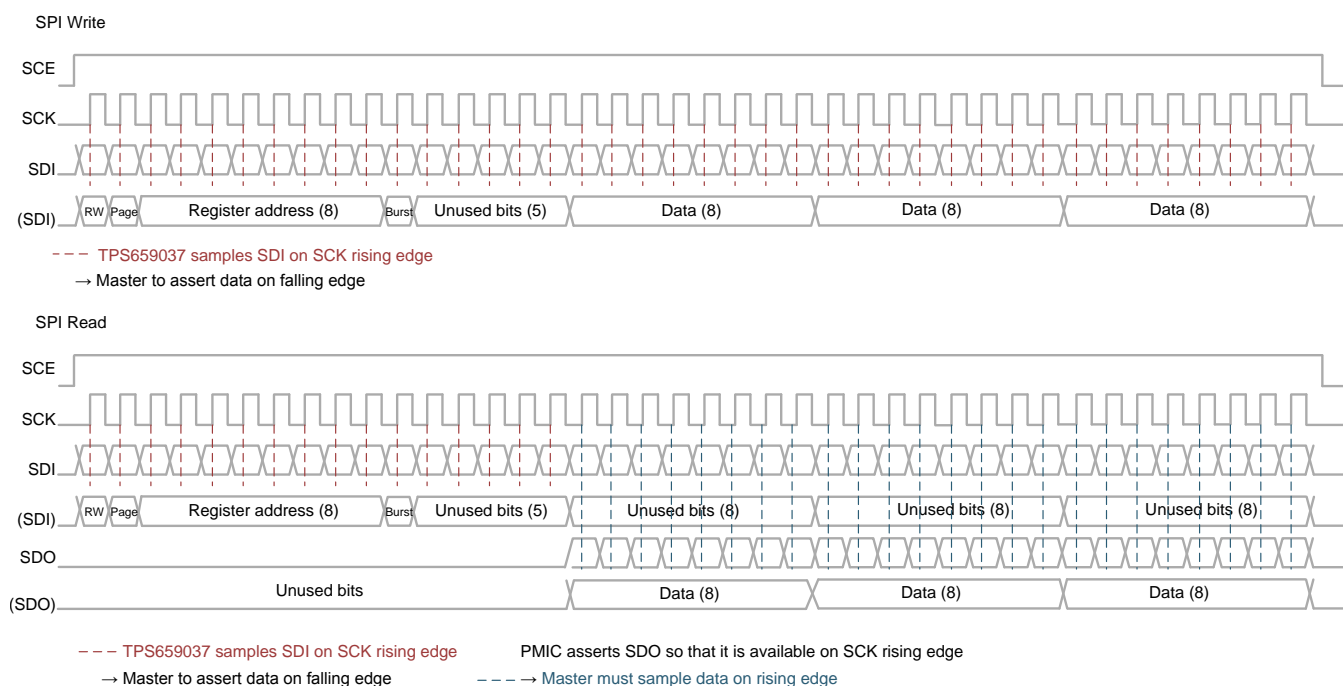

图 5-16. SPI Burst Read and Write Access
- This consists of fetching and storing several data at contiguous locations. The protocol is depicted in 图 5-16.